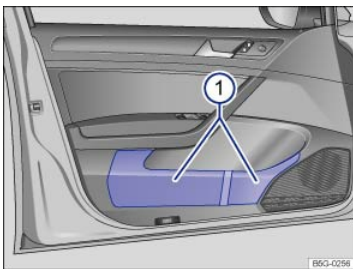

Fig. 137 In the driver door: Storage compartment.
There is a storage compartment in each vehicle door ⇒ Fig. 137① ⇒ .